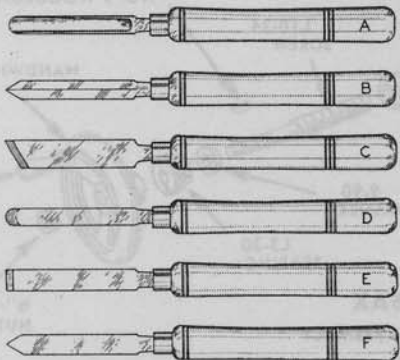
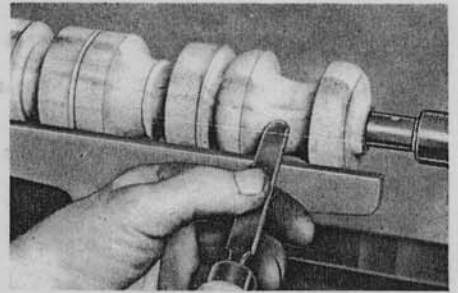

Fig. 3 Woodturning Chisels
Fig. 5 Turning stock between centers with a Roundnose chisel.
1. **GOUGE**—Fig. 3-A. Used mostly for roughing and concave cuts. Chisel should be held on its side, rolled over a little in direction of cut to produce shearing action. Handle is held a few inches below tool rest, slightly behind cutting edge. (See figures 2A and 2B). Never force gouge directly into work as it may catch and split the wood or fly out of your hands.
2. **PARTING TOOL**—Fig. 3-B. Used for cutting-off, sizing, squaring shoulders, cutting recesses, etc. Edge of parting tool is placed on tool rest, perpendicular to stock, with point above centerline of work. Cut should be started with handle sloping downward, and chisel pushed directly into work. As cut progresses, handle must be gradually raised to keep cutting edge engaged. Never force the tool in so fast that it tears rather than cuts the wood.
- 3. SKEW CHISEL**—Fig. 3-C. Used for finish turning, making convex cuts, V-cuts, facing, boring, etc. For finish cuts, skew should be laid across tool rest with flat of cutting edge against surface to be finished and slightly ahead of chisel handle.
- 4. ROUNDNOSE**—Fig. 3-D. Used mostly for forming concave recesses, coves and circular grooves, chiefly on face-plate work. Like parting tool, a roundnose chisel is a scraping tool and is used in the same manner. It is held with the wide part of blade against tool rest (See Fig. 5).
- 5. SQUARENOSE**—Fig. 3-E. Used principally in face plate turning for finishing cuts on convex or flat surfaces. It is a scraping tool and is used in the same way as a roundnose chisel. Bevel should be ground at an angle of 45° to 55°.
- 6. SPEARPOINT**—Fig. 3-F. Used mostly for boring, finishing recesses and square corners. Another scraping tool—use in the same manner as the previous ones.